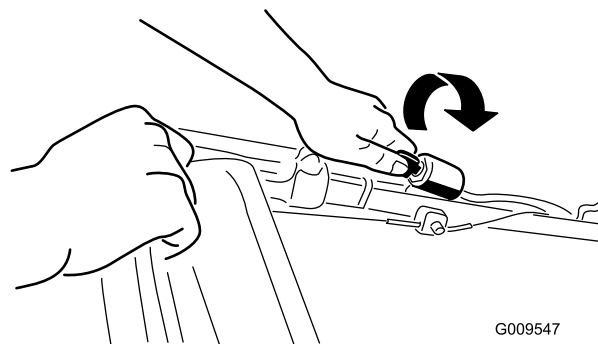
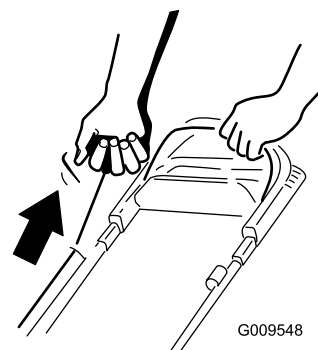

Figure 14
Figure 15
2. Turn the ignition key (Figure 14) (electric-start models only) or pull the recoil-start handle (Figure 15).
Note: When you pull the recoil-start handle, pull it lightly until you feel resistance, then pull it sharply (Figure 15). Allow the rope to return to the handle slowly.